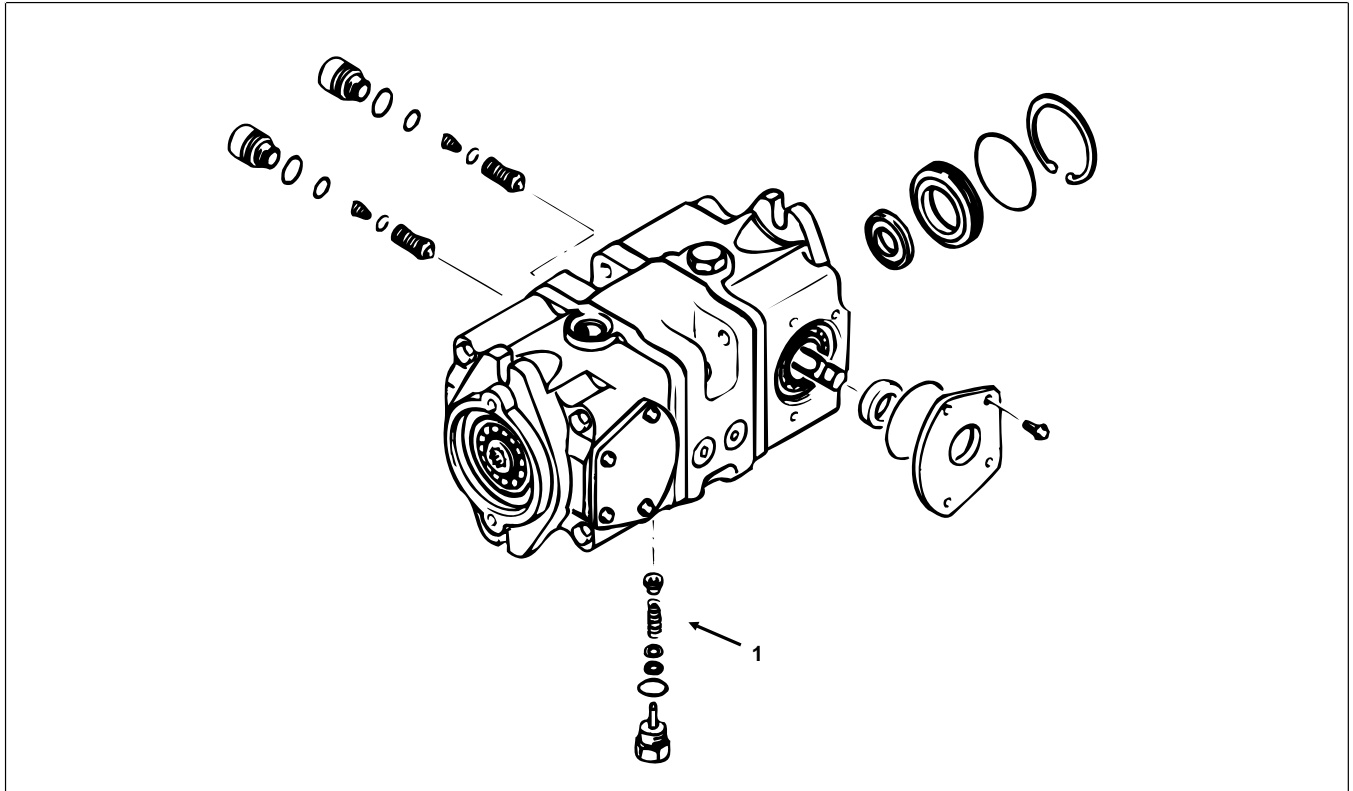

Figure 31
2. Remove the charge relief valve hex plug (Fig. 31).